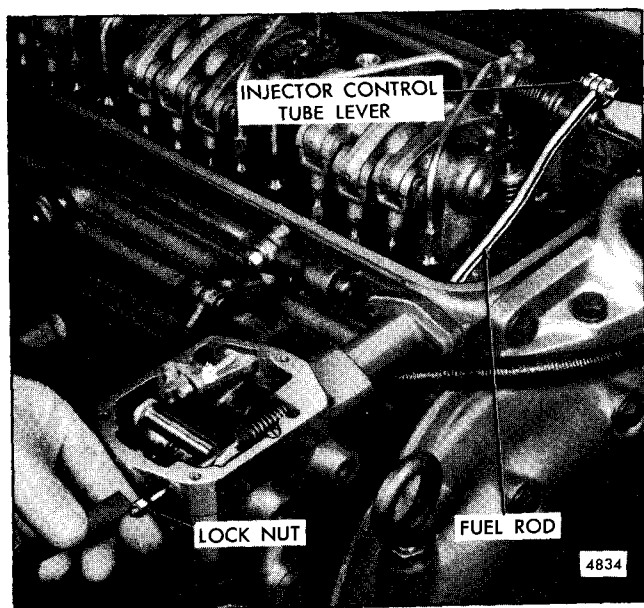

Fig. 1 - Adjusting Fuel Rod
2. Loosen the fuel rod locknut and remove the fuel rod knob (Fig. 1).